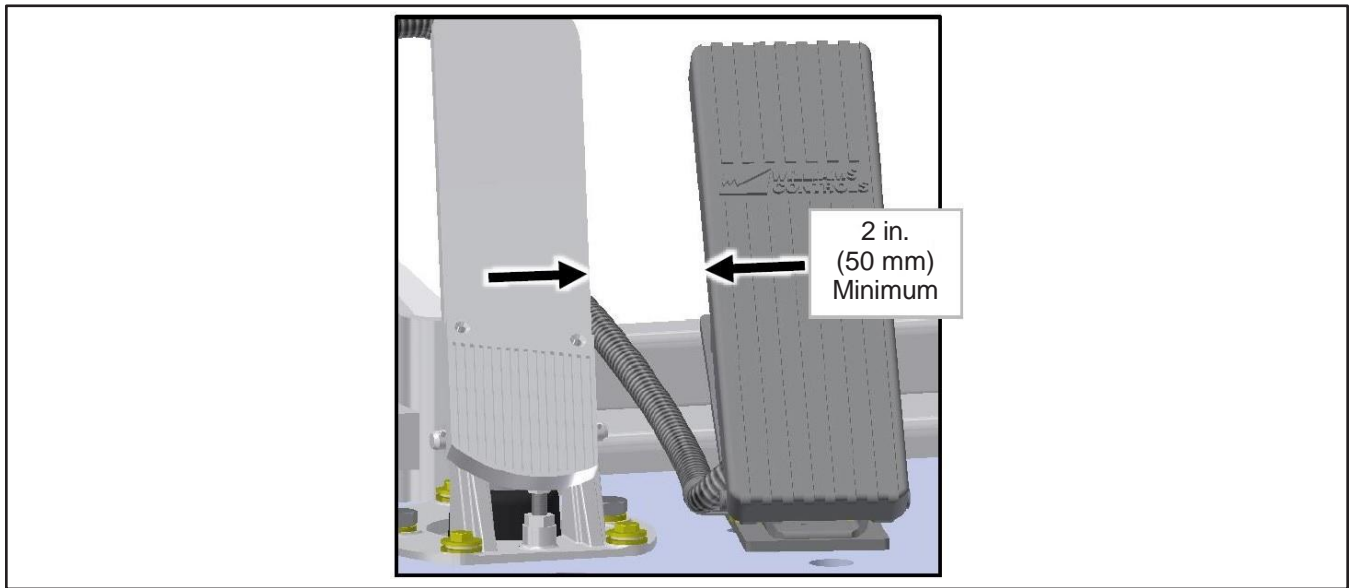

Figure 6 - Minimum Distance Between Brake and Accelerator Pedals
- 1.19. Adjust the distance between the 2 pedals to be at least 2 in. (50 mm) (Figure 6).